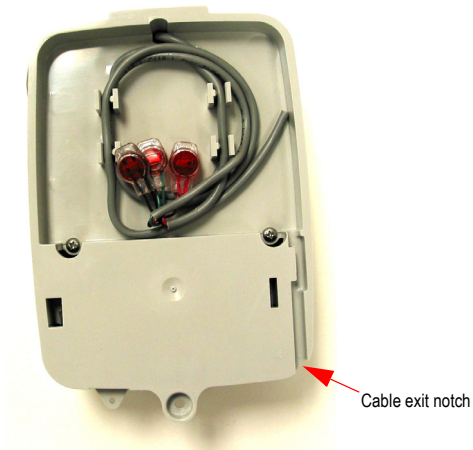

Figure 19 Cable Exit Notch
- 7 Next, continue to guide the remaining wire through the cable exit notch at the bottom right side of the MIU as shown in Figure 19.